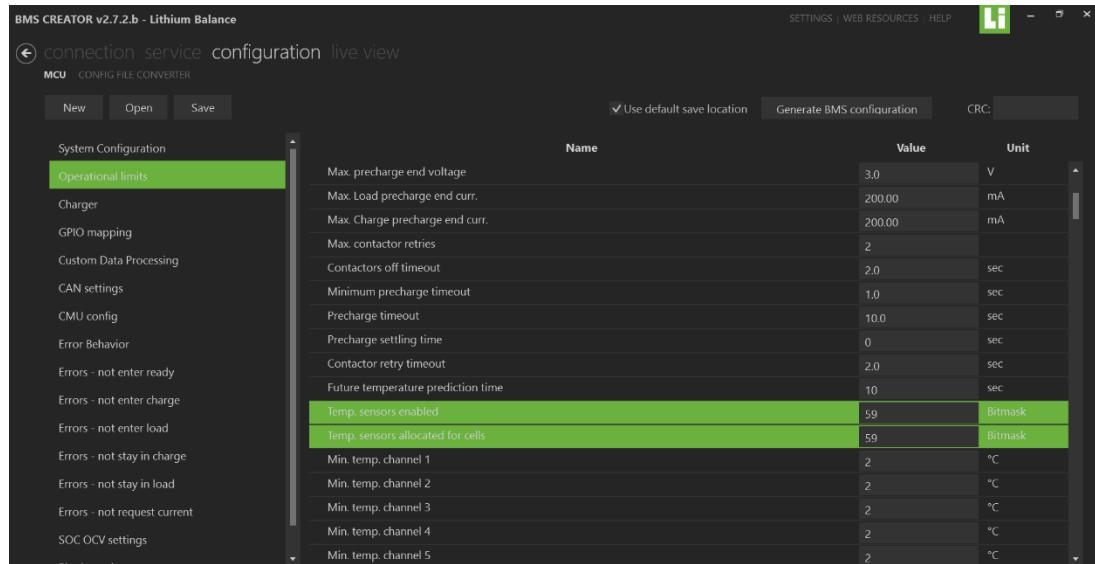

Figure 65 : BMS Creator : Disabling one of the temperature channels
- b) With the above use of temperature sensor 3 as GPIO digital input, it should be disabled as temperature input as shown in Figure 65. The associated bit position for the particular temperature sensor is set as zero (decimal 59 ~ binary 111011).